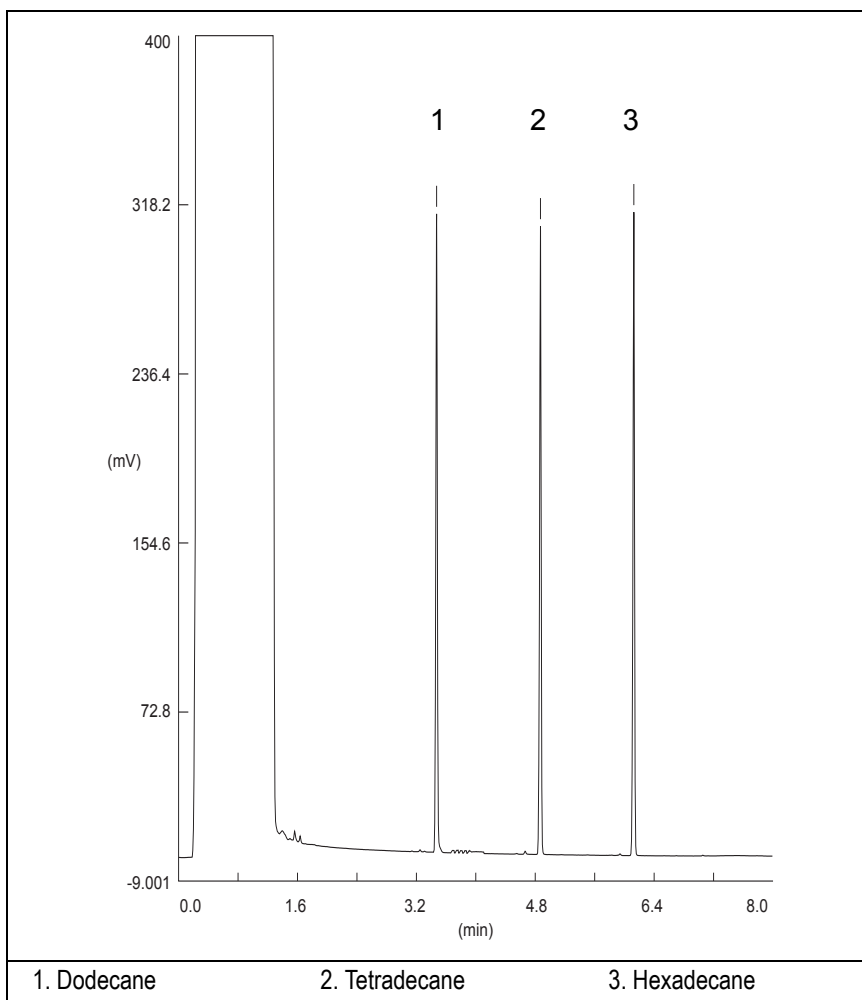

Figure 2-1. FID-Splitless Injection
12. Inject the test mixture and press **START** on the GC to begin the checkout run. The resulting chromatogram should look like the one shown in *Figure 2.1*.